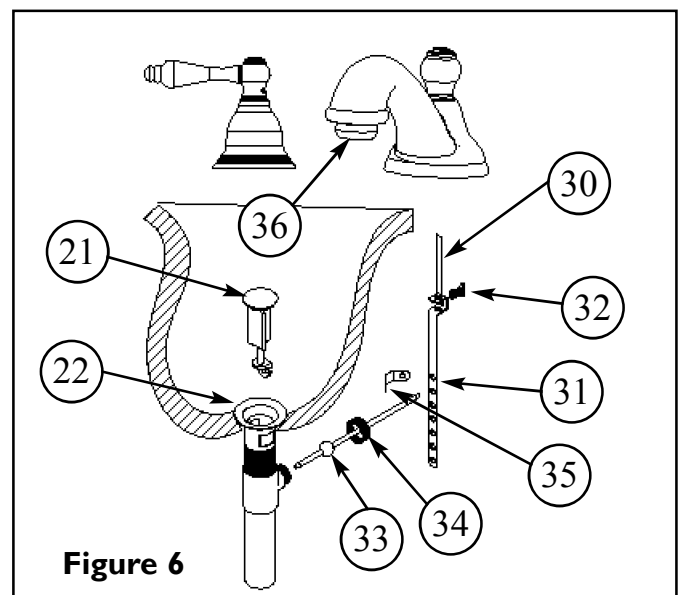

Figure 6
7. Place drain PLUG (17) into FLANGE (18). Insert pop-up ROD (26) through spout and secure to STRAP (27), approximately 1" from end of ROD (26), with SCREW (28). Insert ball ROD (29) into the drain's rod opening, secure with ball rod NUT (30). Adjust the rise of the plunger and CLIP (31) into place. Adjust ball ROD (29) and pop-up ROD (26) so drain will open and close properly. See Figure 6.
8. Remove AERATOR (32) from spout, turn on water supply, and flush both valves until water is clear. Check for leaks and make any final adjustments required. Re-attach AERATOR (32) to the spout.